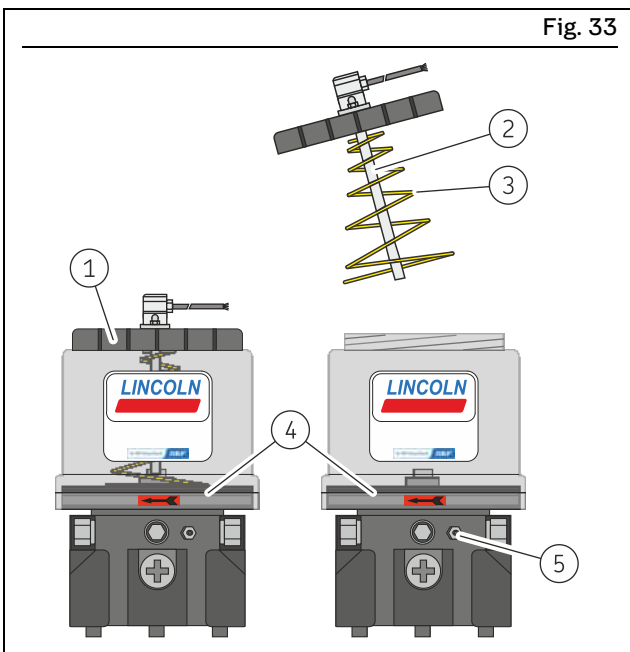
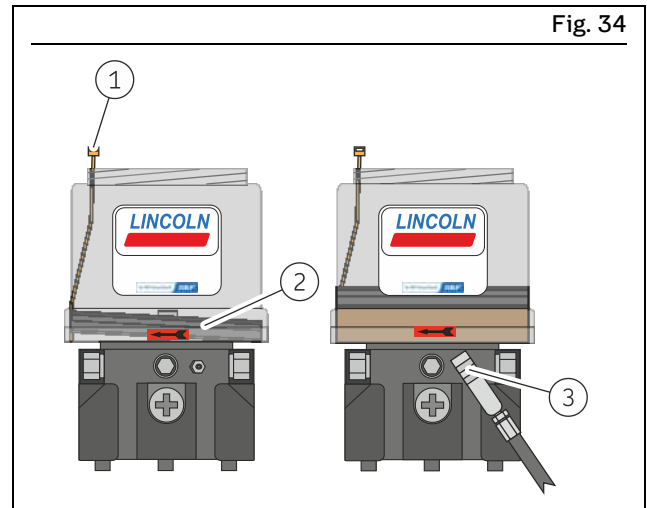

Fig. 33
Fig. 34
For pumps without grease filling, the space underneath the follower plate must be filled with lubricant prior to first start-up. All additional filling is done exclusively via the filler nipple (Fig. 33/5) or the optional fill connection on the pump.
1. Turn the reservoir cover (Fig. 33/1) counterclockwise and detach it from the reservoir.
2. Carefully release the spring (Fig. 33/3) from its fixation on the follower plate (Fig. 33/4).
3. Carefully pull the contact rod (Fig. 33/2) out of the follower plate (Fig. 33/4).
6. Tilt the follower plate (Fig. 34/2) in the reservoir slightly so that the side opposite the filler nipple (Fig. 33/5) is positioned at the highest point.
7. At this point, push the cable tie (Fig. 34/1) into the area underneath the follower plate as shown.
8. Move the follower plate (Fig. 34/2) back into horizontal position. Take care to ensure while doing so that an air gap is created by the cable tie (Fig. 34/1).
9. Set the fill connection (Fig. 34/3) of the filling pump on the filler nipple and fill the space underneath the follower plate with lubricant. Take care to ensure that no air inclusions remain under the follower plate and that no lubricant reaches the upper side of the follower plate.
10. Remove the cable tie (Fig. 34/1).